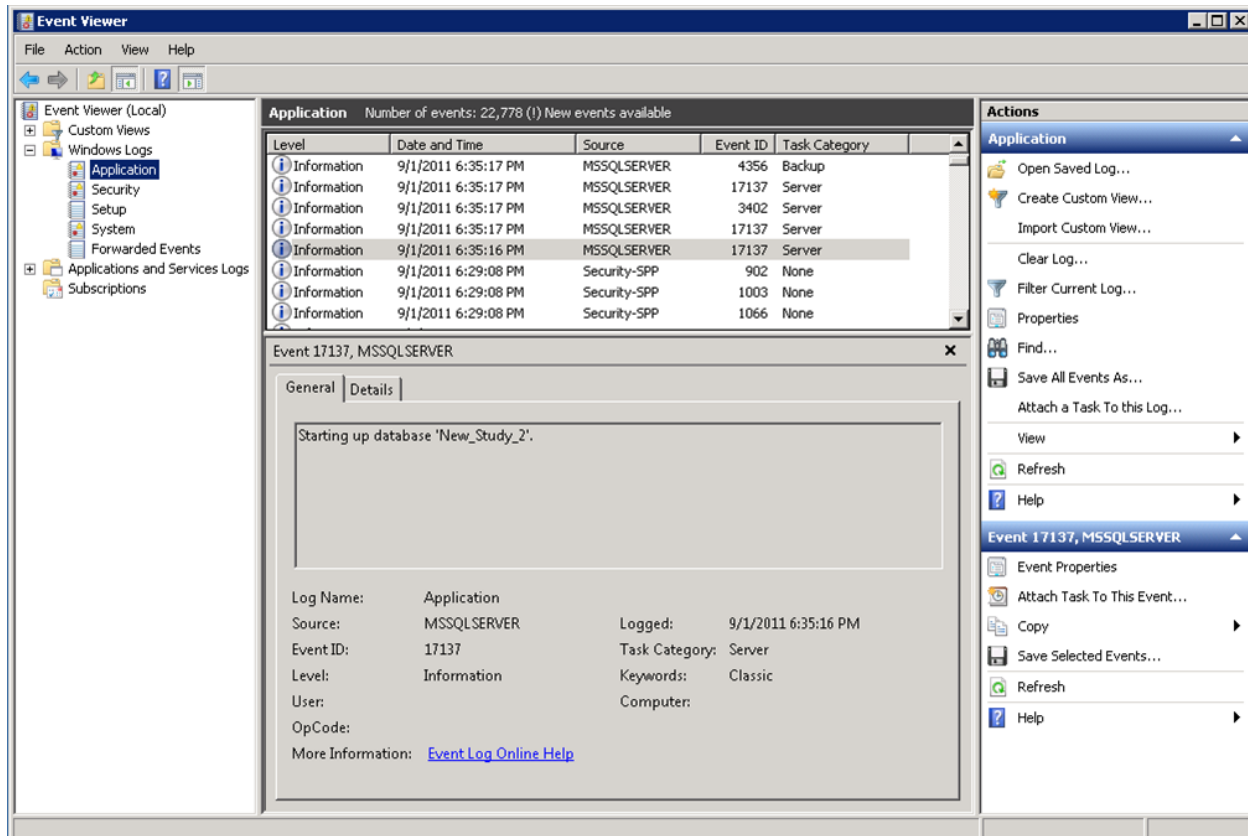

Figure 1-1 Event Viewer in Windows 7
- In Windows 7, open Event Viewer by navigating to the *Start* menu, *Control Panel*, *System and Security*, *Administrative Tools*, *Event Viewer* (Figure 1-1).